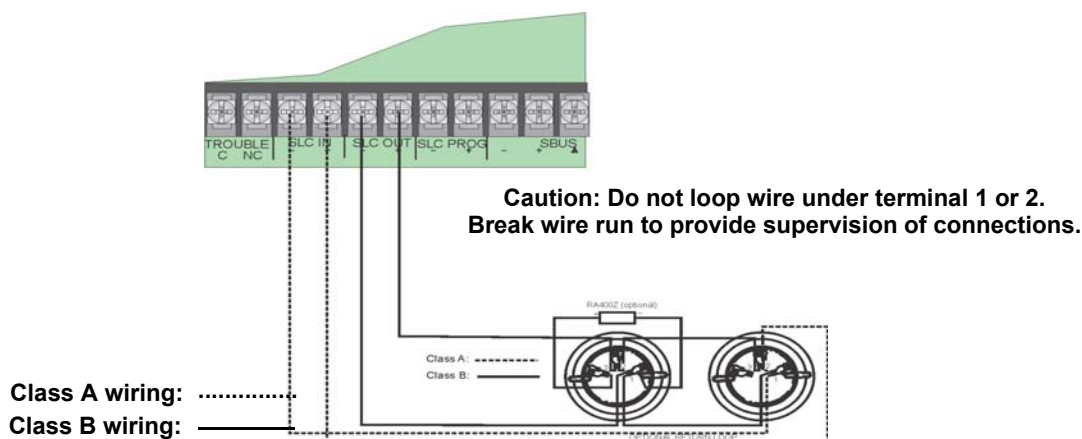

Figure 5.4 Heat and Smoke Detector Connection to the Panel.
1. Wire device bases as shown in Figure 5.4.